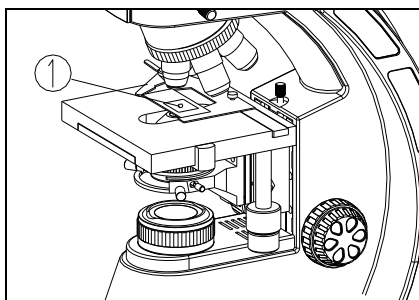

Fig. 20
2. Place a drop of oil (1) on the specimen (see Fig. 20).